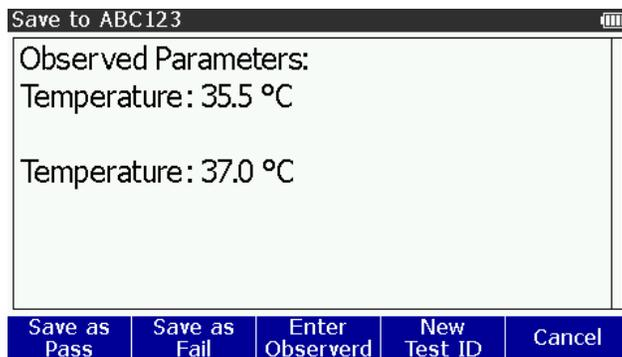

Figure 53. Observed Results Screen
4. Push **ENTER** to set the observed value and show the save screen shown in Figure 53.